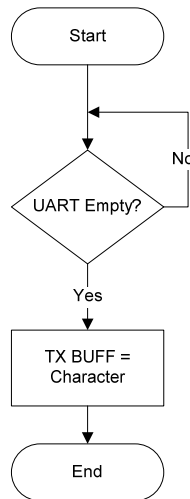

Figure 4: Flowchart to write a character over the UART.
5. Write a short program to write a character over the UART. Figure 4 illustrates a flowchart with the suggested sequence of steps.